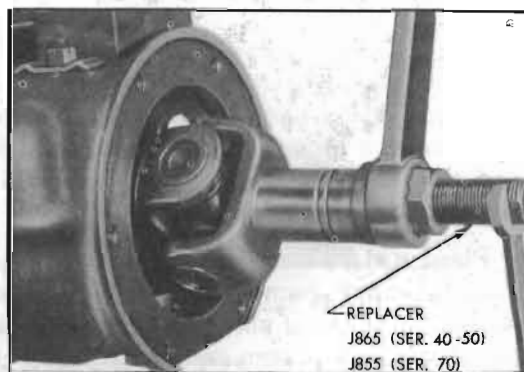

Figure 4-147—Installing Universal Joint
3. Make sure the universal joint retaining ring is fully seated in groove in output shaft, then install universal joint using Replacer J 865 (Ser. 40-50) or J 855 (Ser. 70) to draw universal joint snug against retaining ring. See figure 4-147.